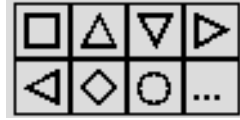

Figure 8-12. Symbol selection area of the Quick Edit dialog.
8.4.3.2. Choosing a Symbol Shape. Use the Symb Shape drop-down on the Symbol Attributes dialog or use the symbol selection area of the Quick Edit dialog, shown in Figure 8-12, to select the symbol type for each mapping.